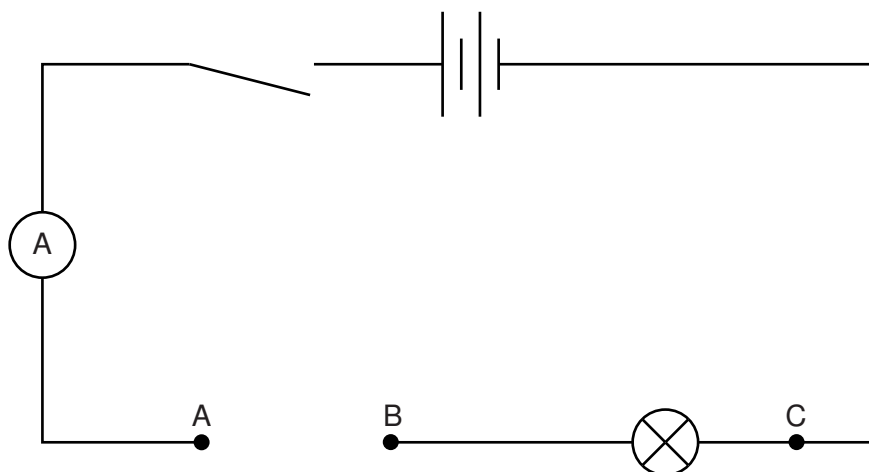

Fig. 3.1
3. The Supervisor should set up the apparatus as shown in Fig. 3.1. The terminals A, B, and C should be clearly labelled. C is labelled where the lead is connected to the filament lamp holder.
5. At the changeover, the apparatus should be restored to its original state as in Fig. 3.1, removing any resistors from the circuit. There should be a gap between A and B. If cells are used, they should be checked and replaced, if necessary.